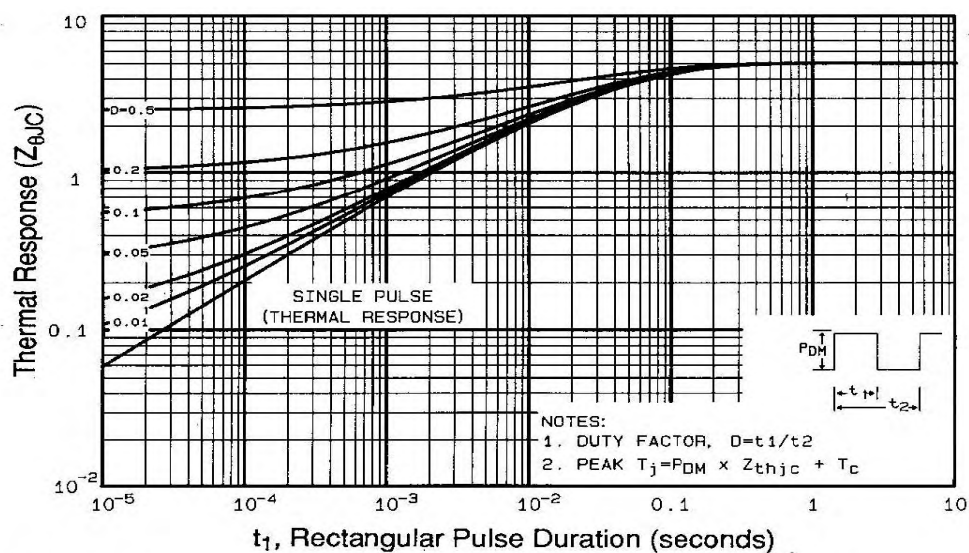

Fig 11. Maximum Effective Transient Thermal Impedance, Junction-to-Case
① Repetitive rating; pulse width limited by max. junction temperature (See Figure 11)
② $V_{DD}=25V$, starting $T_J=25^\circ\text{C}$, $L=8.1\text{mH}$